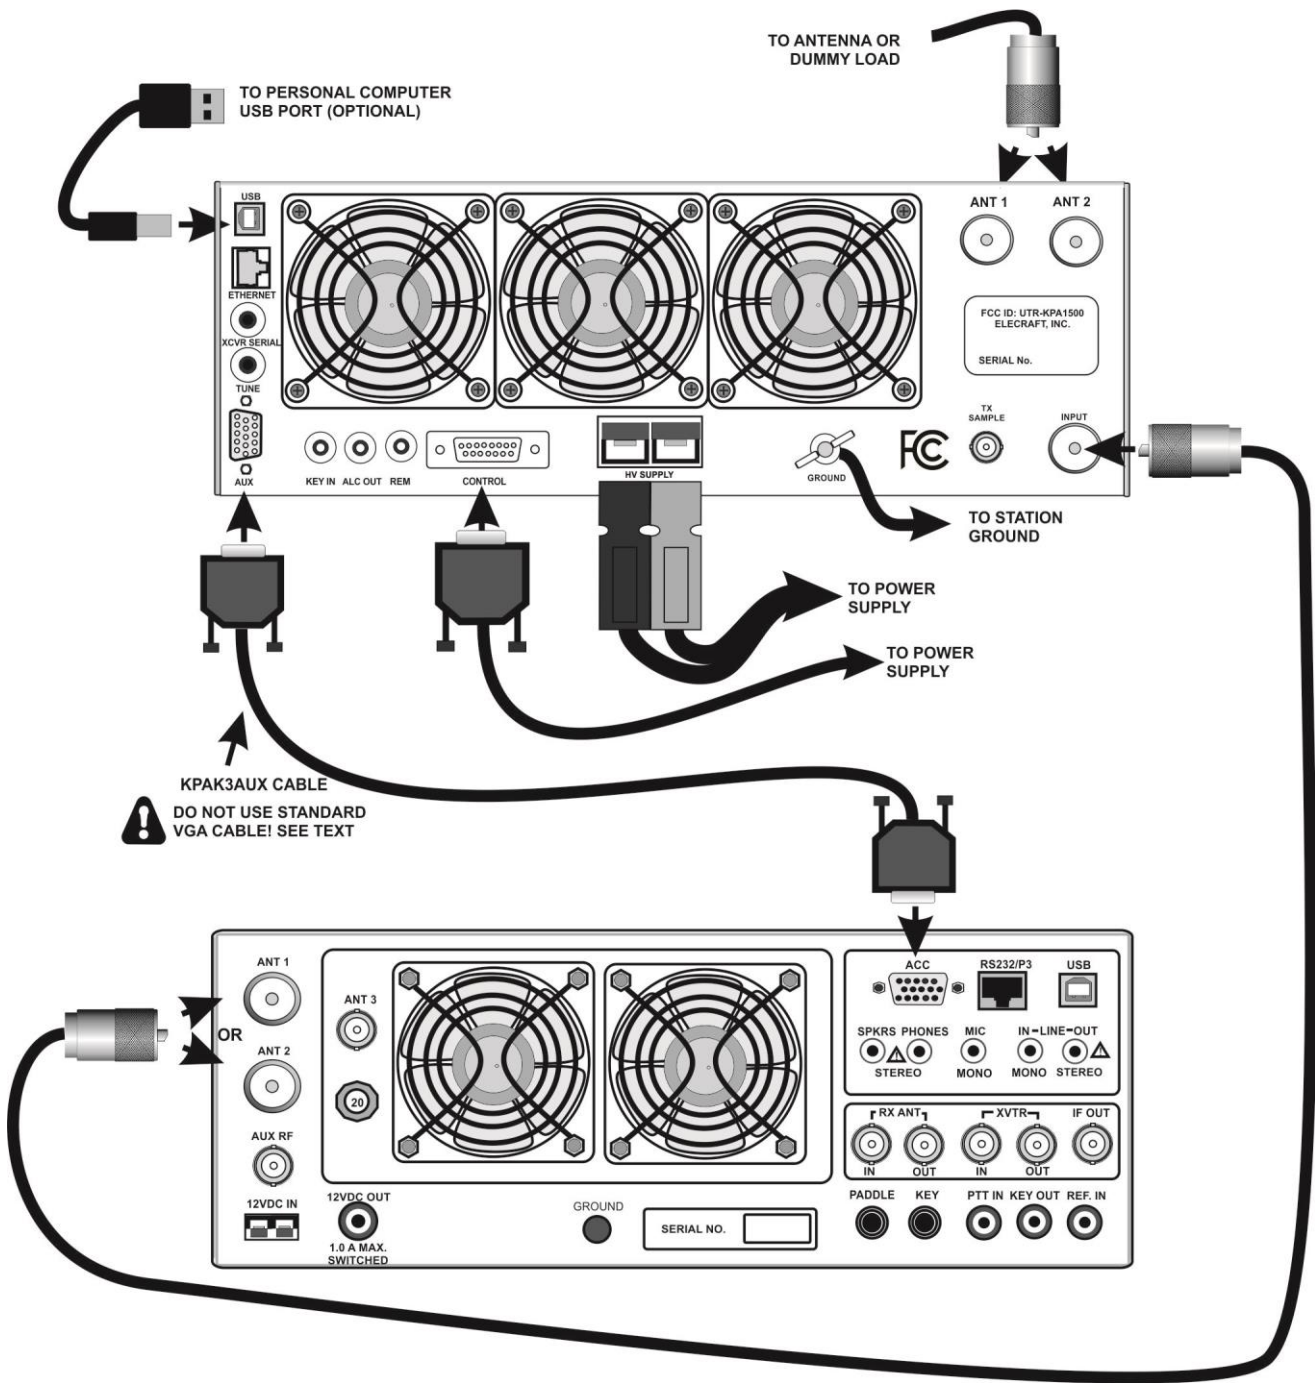
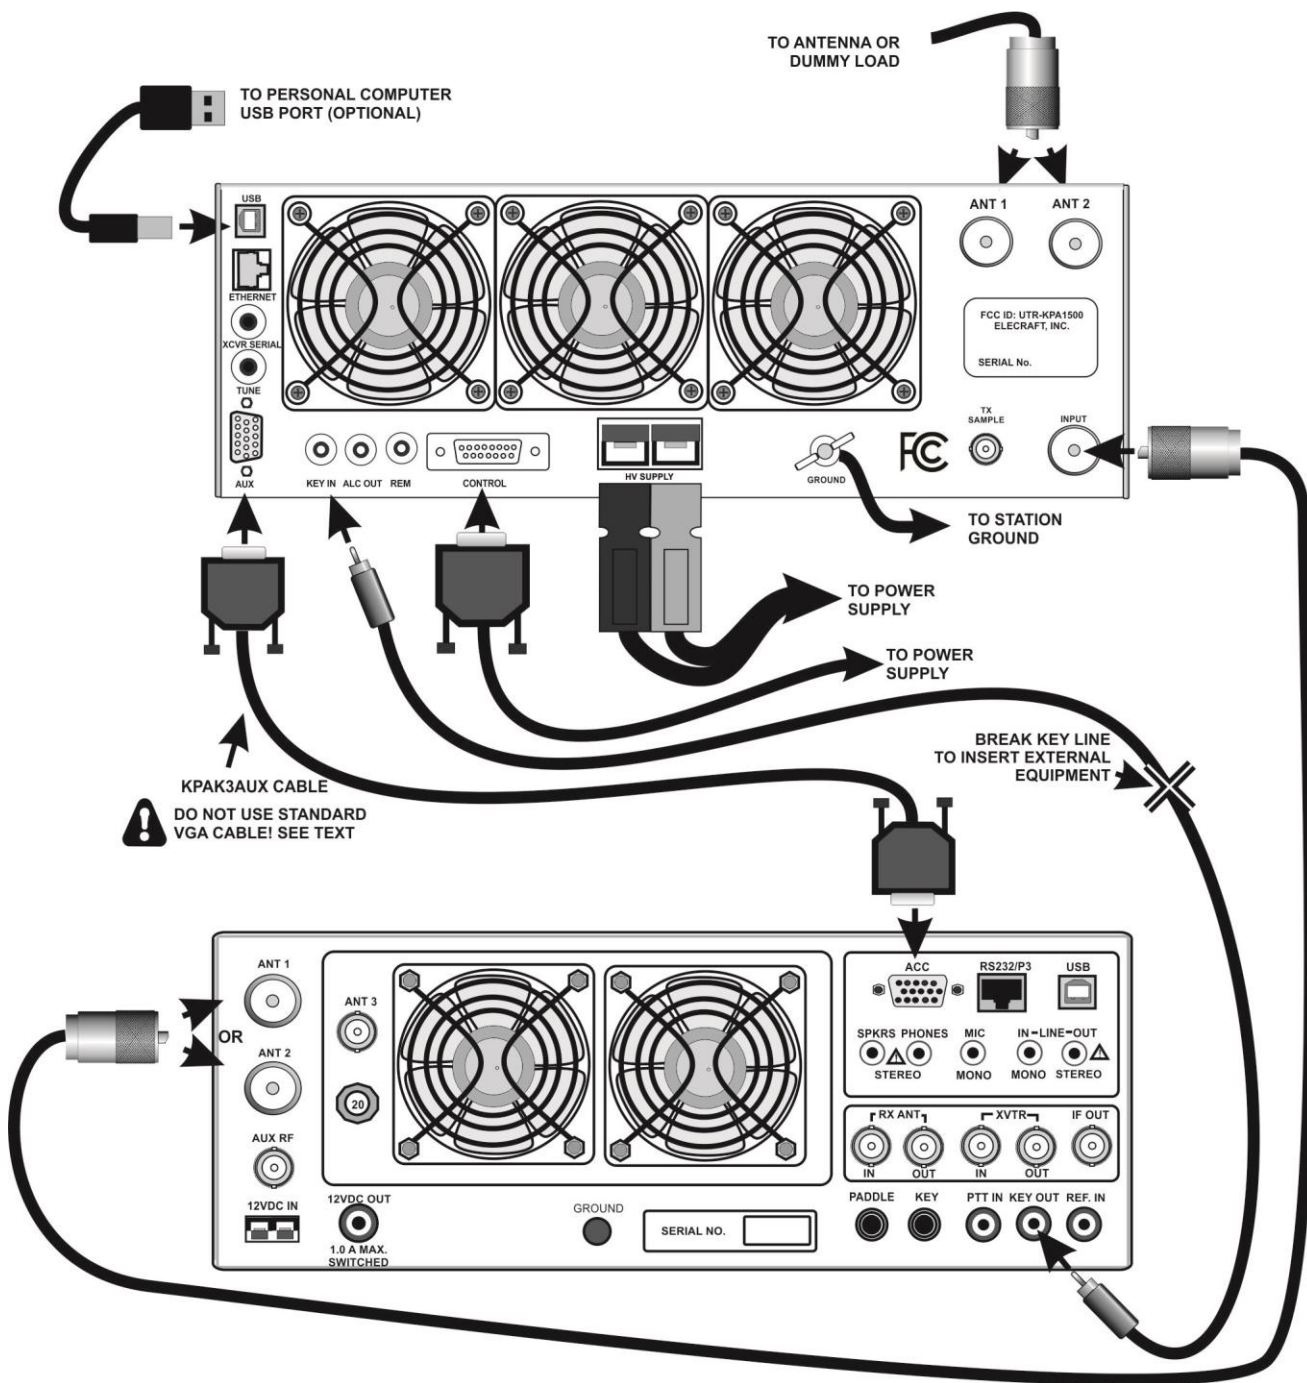

Figure 4. K3S Enhanced Cabling Using KPAK3AUX Cable.
Figure 5. K3s Enhanced Cabling Using KPAK3AUX Cable and Separate Key Line.
The optional KPAK3AUX cable provides closer integration with a K3 or K3S by sharing band information between the KPA1500 and the transceiver. (see Figure 4, page 11). The KPAK3AUX cable provides all the operational features described under Operation (page 13), including coordinated band-switching (page 14). Note that the KPAK3AUX cable also incorporates the KEY IN line. If you need access to this line so that other equipment can bypass the amplifier, you can install the Key Line Interrupter supplied with your KPAK3AUX cable and use a separate key line as shown in Figure 5 on page 12.
- Connect the KPA1500 and K3 or K3S using the AUX interface cable as shown in Figure 4 (page 11) or Figure 5 (page 12).